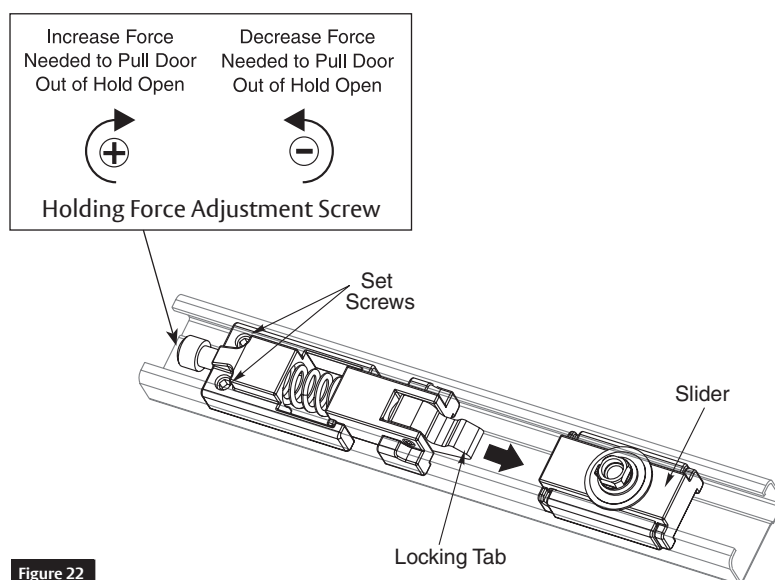

Figure 22
1. Insert locking tab of hold open assembly into track slider. (Figure 22)
3. Tighten hold open set screws to lock down hold open assembly. (Figure 22)
5. Adjust hold open by turning adjustment screw with provided 3/16" hex wrench. (Figure 22)